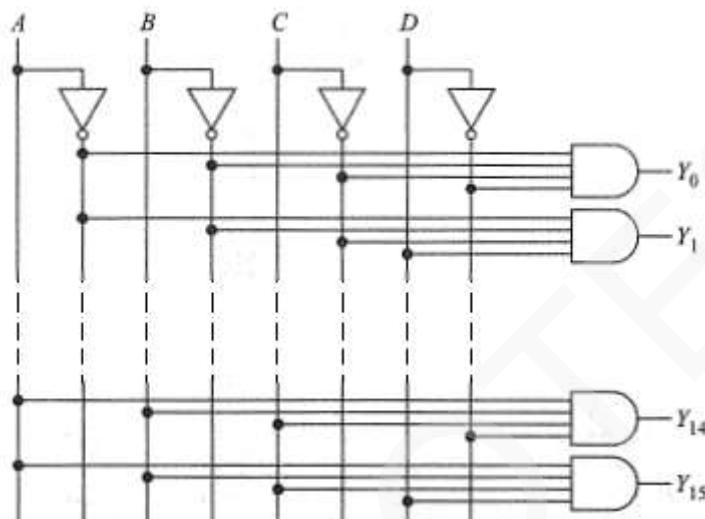

Figure 4.14: 1-of-16 decoder
- It is a multiple-input, multiple-output logic circuit which converts coded inputs into coded outputs, where the input and output codes are different (Figure: 4.14).
- Here's how it works (Figure 4.14):